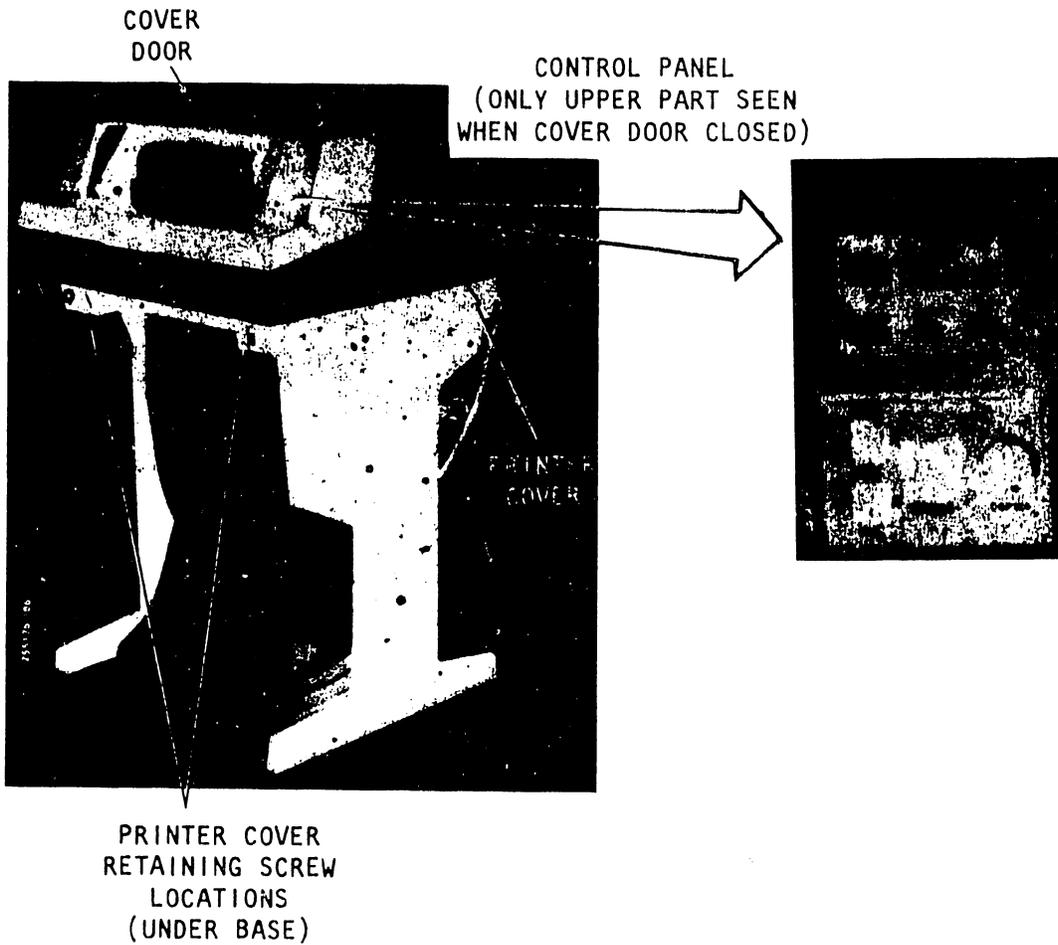

Figure 4-3. Control Panel Switches
Control Panel Switches	Paragraph 4.4, Figure 4-3
Removing the Printer Cover	Paragraph 4.5, Figures 4-3, 4-4
4.4 CONTROL PANEL SWITCHES (Figure 4-3)
Two control panel switches are often used in the troubleshooting procedures: **ON/OFF LINE** and **ALARM/CLEAR**. Figure 4-3 shows the control panel switches and the location of the **STATUS** display.
### 4.5 REMOVING THE PRINTER COVER (Figures 4-3 and 4-4)
#### 4.5.1 Printer Cover Removal/Installation (Figures 4-3 and 4-4)
- d. Remove the two retaining screws that secure the printer cover to the printer base. See figure 4-3 for the location of the screws.
- e. Install the two retaining screws. See figure 4-3 for the location of the screws.